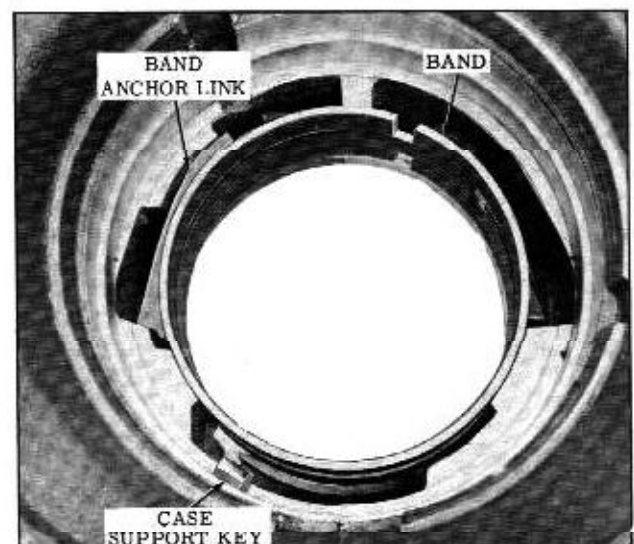

Fig. 3-93 Installing Band
2. Install band with a single ear facing servo side of case. (Fig. 3-93)